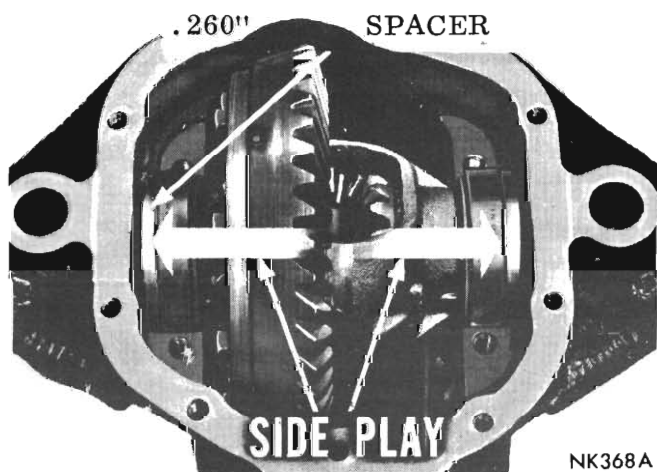

Fig. 29 - Temporarily install thinnest spacers available
(1) With pinion installed and the bearing preload set, install the differential carrier, with a .260" spacer on the ring gear side (*see Fig. 29*) into the differential housing. Do not install the bearing caps.